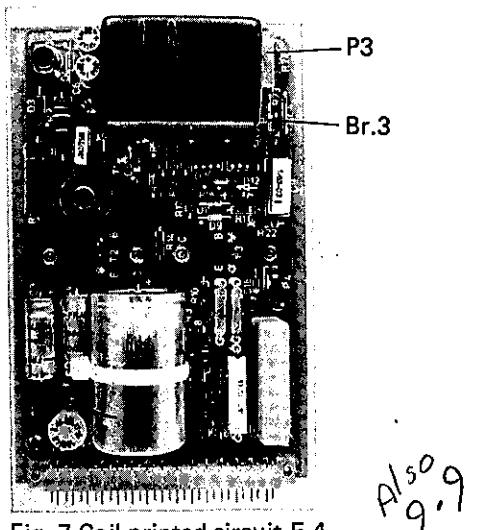

Fig. 7 Coil printed circuit E 4
8. Coil printed circuit E 4 (see Fig. 7).